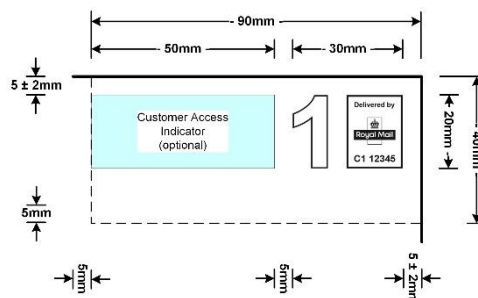

Figure 5: Small Access Indicia Design dimensions (not to scale)
- A Class Identifier should be applied to Priority Mailing Items. Figures 5 and 6 below demonstrate the size and positioning requirements when applying the Class Identifier to Mailing Items.